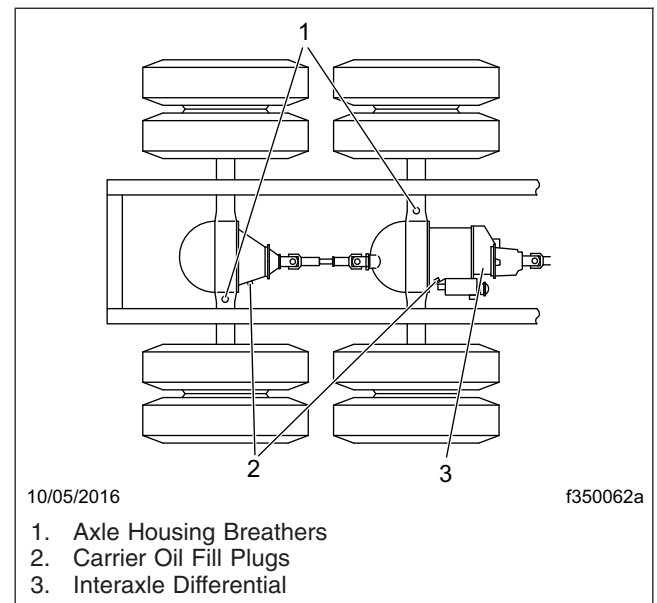

Fig. 9, Meritor Axle Housing Breathers
5. Check the axle housing breather. Make sure that it is open and unclogged. See Fig. 9. If the breather is plugged or damaged, clean or replace it as needed.